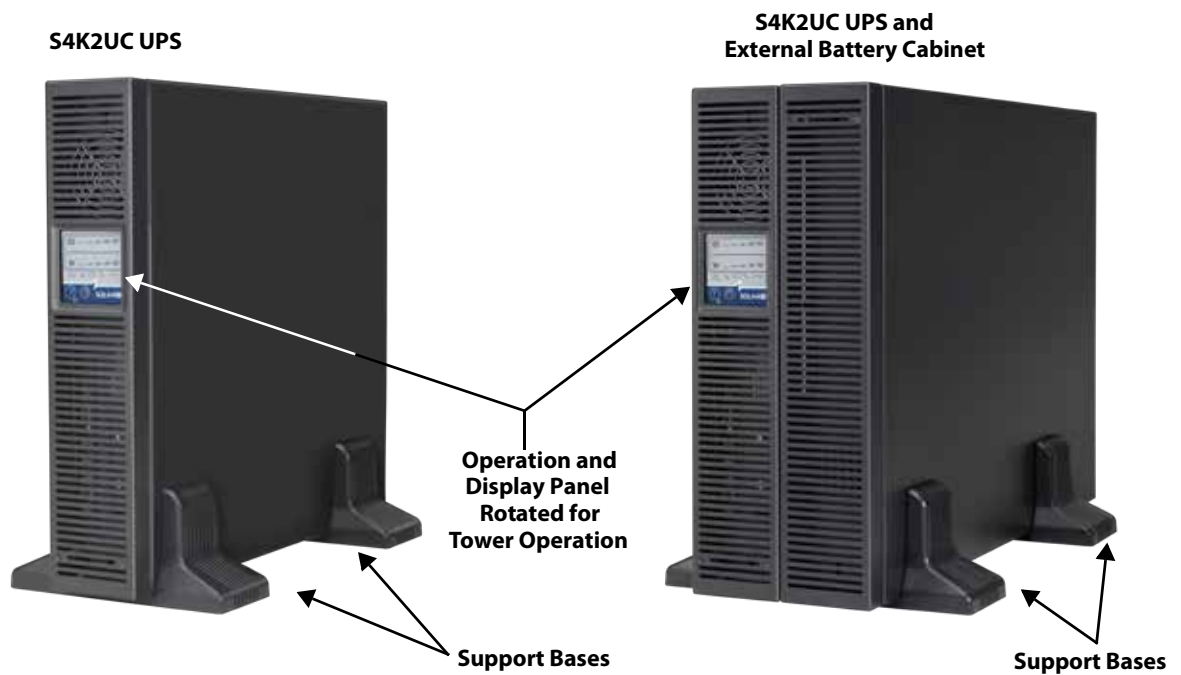

Figure 7: Tower installation
5. Place the S4K2UC and any battery cabinets on the support bases. Each S4K2UC needs two support assemblies as shown in Figure 7.